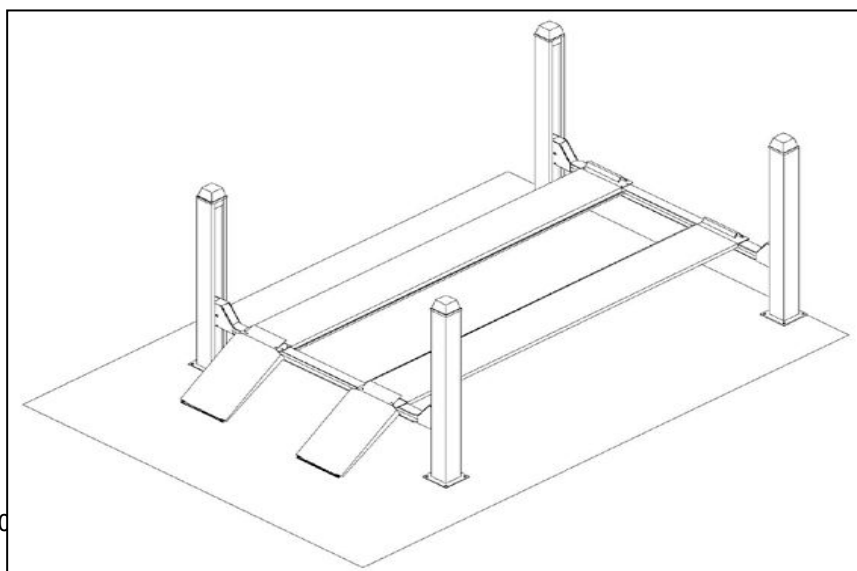

Figure 9
-In case of oil pipe rupture or wire rope broken, the corresponding rope broken protection mechanism will work to prevent platform from sliding (see Fig.9).